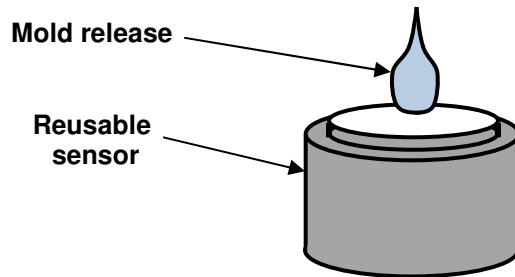

Figure 12-1
- Do prevent material from adhering to ceramic or reusable sensors by applying silicone or non-conductive mold release, as shown in Figure 12-1